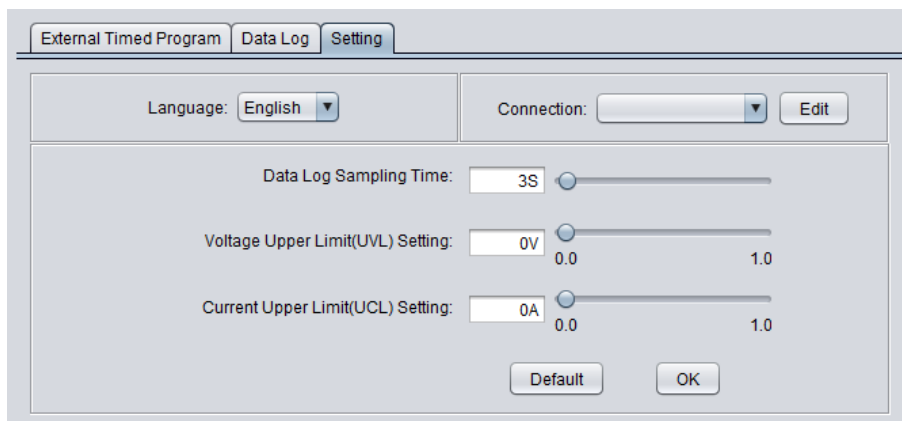

Figure 7.12
- Select the “Setting” tab. See **Figure 7.12**